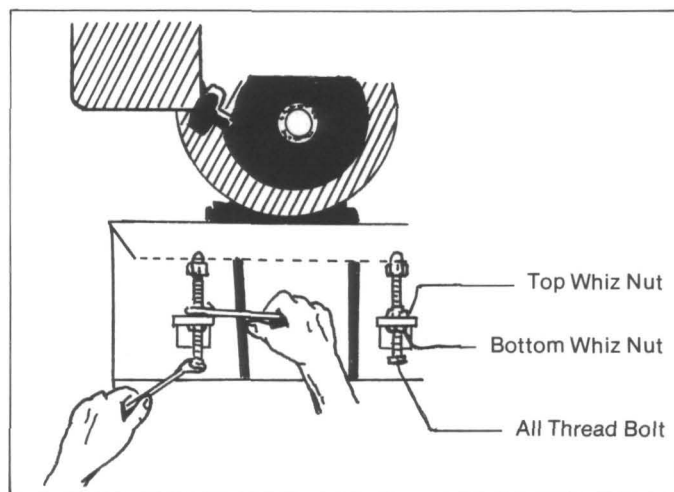
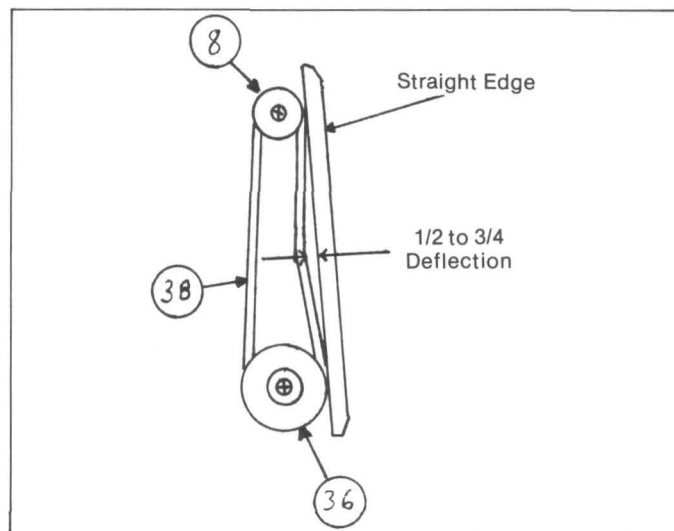

Fig. 6
Fig. 7
- C. Hold top whiz nut and turn all thread bolt as shown in Figure 6 until belt is at desired tension (see Figure 7)